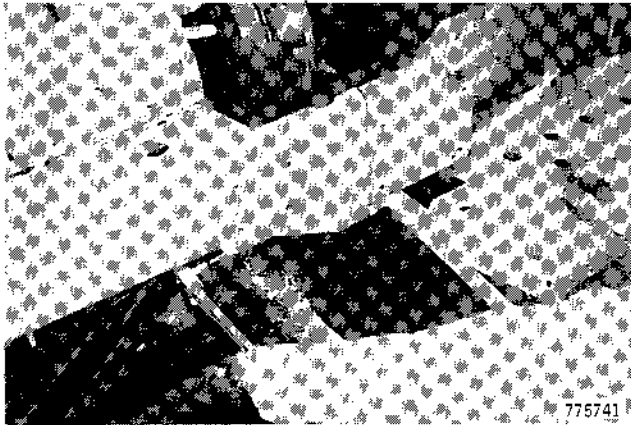

Figure 144
17. Install the two outside cap screws underneath the front housing through the front and rear housings and into the steps, Figure 144.